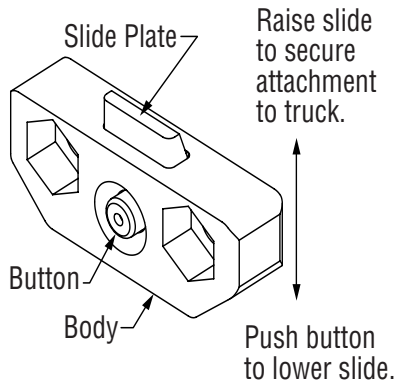

Figure 4-1, Quick Hook
1. Remove the lower bolt-on hooks and, if applicable, make a note of any factory installed shims. Shims are used to create clearance between the hook and carriage. If the attachment is equipped with quick hooks, simply depress the button on the back of the hooks, allowing the slide plate to drop. Removal of the quick hooks is NOT recommended. (Figure 4-1)